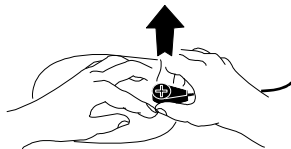
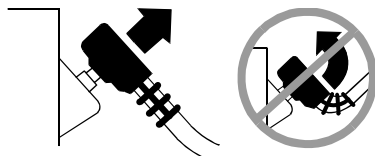

Figure 5-6 Disconnecting Defibrillation Cable from FAST-PATCH Electrodes
Figure 5-7 Disconnecting Defibrillation Cable from Test Post
- 2 Pinch the snap connector with the fingers of the other hand and pull straight up (see Figure 5-6).
Improper disconnection of the defibrillation cable may damage the cable wires. This can result in failure to deliver energy or loss of ECG signal during patient care. Position the cable so that it will not be pulled, snagged, or tripped over. Do not disconnect the defibrillation cable snap connectors from electrode posts or posts on testing devices by pulling on the cable. Disconnect the cable by pulling each cable connector straight out (see Figure 5-6 and Figure 5-7).